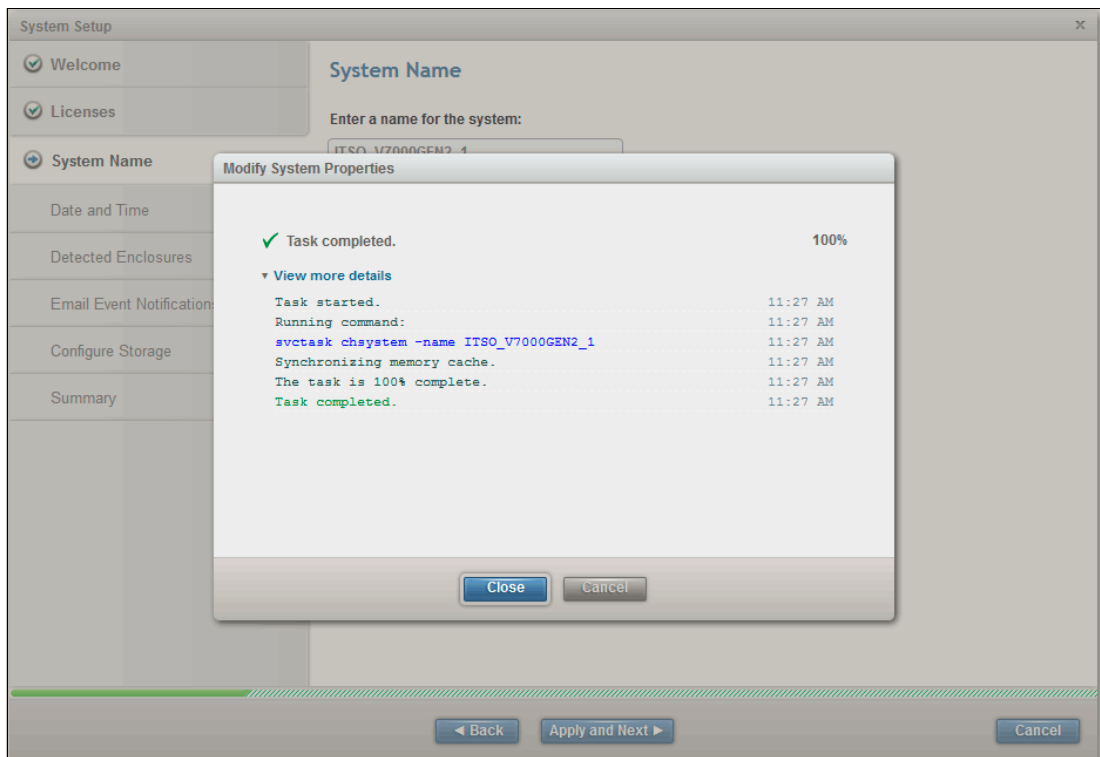

Figure 5-15 Applying system name
8. Click **Apply and Next**. The system configures the system name, as shown in Figure 5-15.